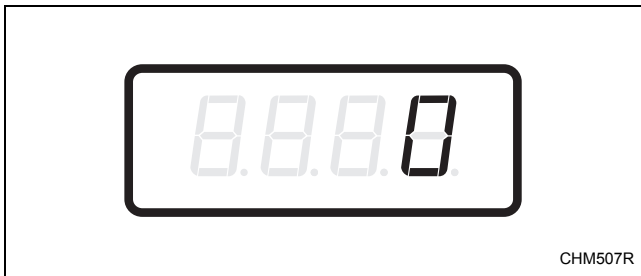

Figure 22
2. When “SA12” appears in the display, press the START (enter) keypad. There are five digits in the Special Vend A Normal Warm Vend Price. The fifth digit will appear in the display and will flash one (1) second on and one (1) second off. Refer to *Figure 22*.